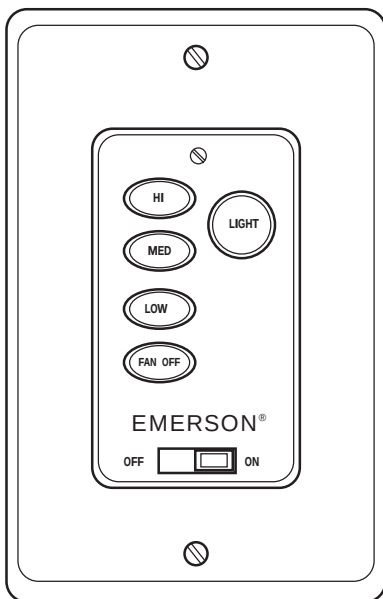

Figure 15
- 2. To set the desired fan speed, press the HI, MED, or LOW buttons to operate your fan on high, medium, or low speed (Figure 15).
Your Fan/Light Wall Control (Figure 15) has full control of your fan and lights. However, airflow direction is controlled by a slide switch on the switch housing.